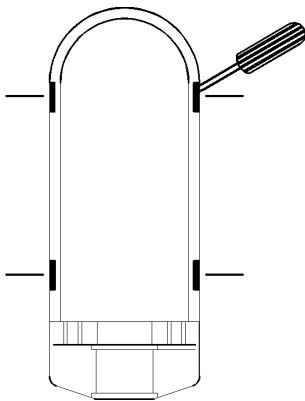

FIGURE 5
- (1) Switch off the power source or wall switch.
- (2) Use a flat screwdriver to hinge off the lamp shade from its bottom housing (FIGURE 5).